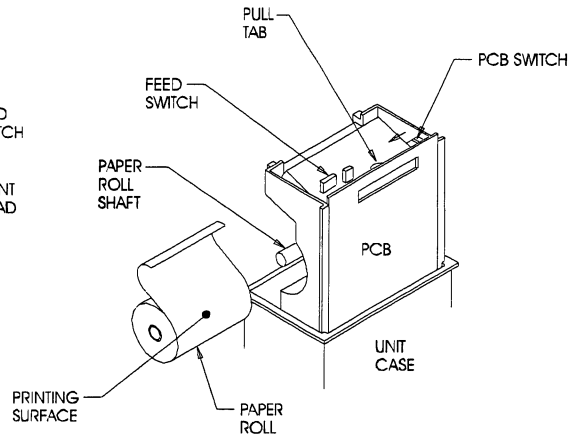

FIGURE 2
- B. Place the new paper roll on the shaft as illustrated in *Figure 2*. Note: The outside surface of the paper roll is the printing surface.
- C. Make sure the printed circuit board switch is positioned toward the pull-tab (*Figure 2*).